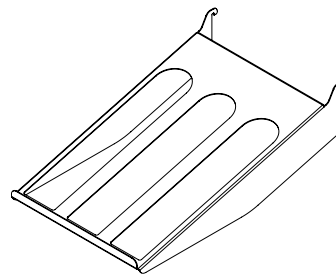

Figure 16
(1) 3 bottle wine shelf (see Figure 16).